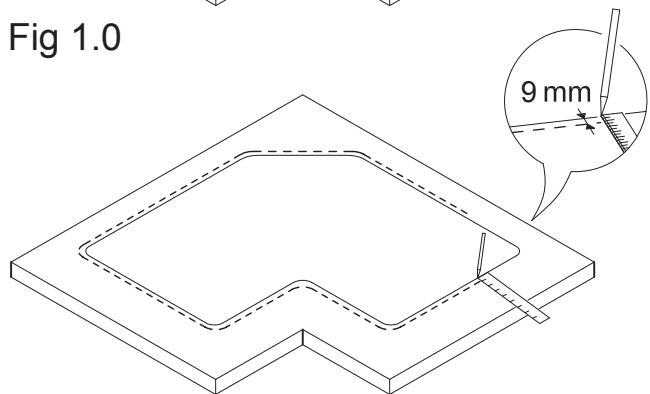

Fig 2.0
3. Remove the sink and make another line for the cut out, offset 9mm inside the first line. (See Fig 2.0)